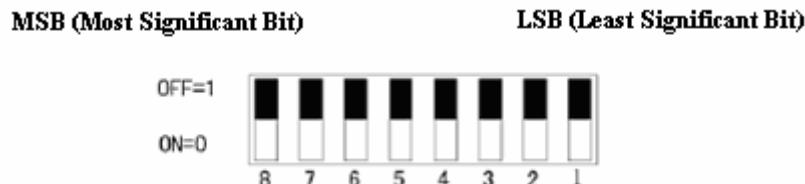

Figure 3-3-3 Binary Value Relationship between Switch Status & Station Address
- DP+ and DP- in the above figure connect 3(B) and 8(A) pin of DB9 linker inside circuit board.
- 8-bit dial switch is used to set up slave station address, ON-0, OFF-1, the binary value relationship between switch status and station address is shown in Figure 3-3-3.